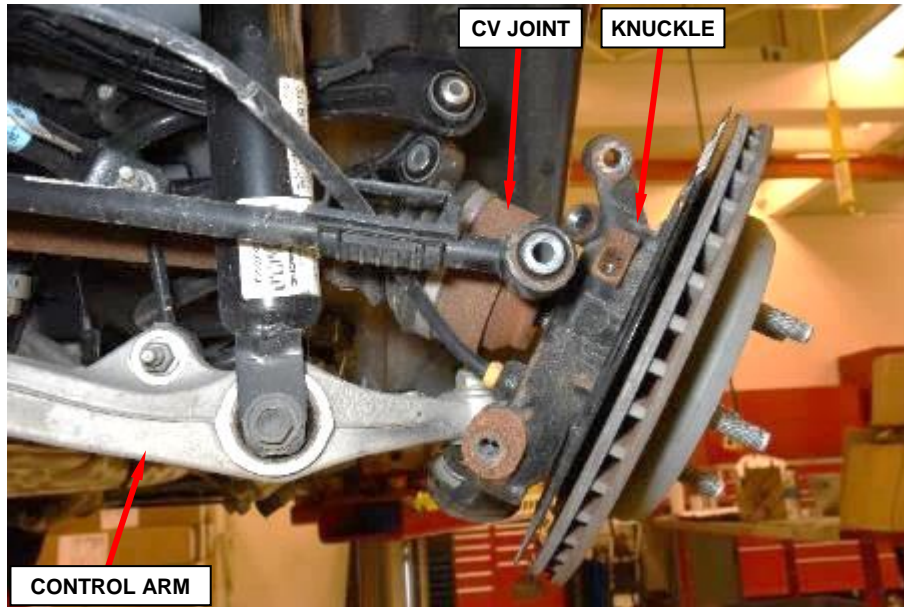

Figure 7 – Rear Knuckle
13. Swing the rear knuckle outward as shown (Figure 7).
22. Position the halfshaft outer CV joint end into the wheel hub (Figure 7).